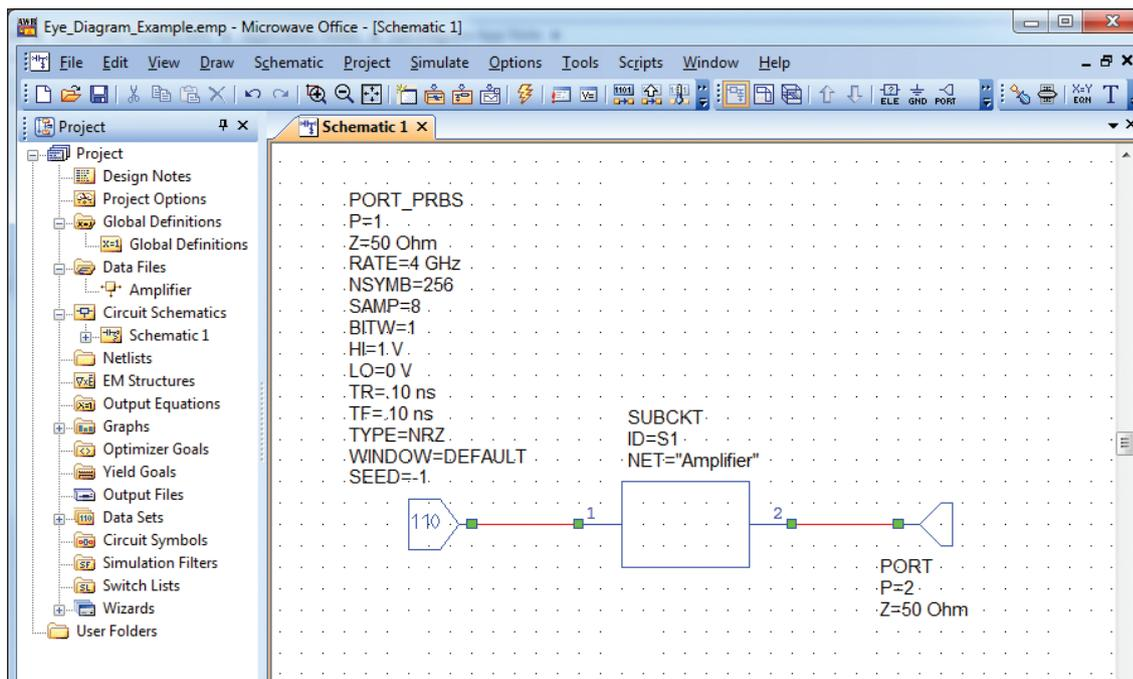

Figure 4: Example Schematic
8. Connect the Schematic as shown in Figure 4.